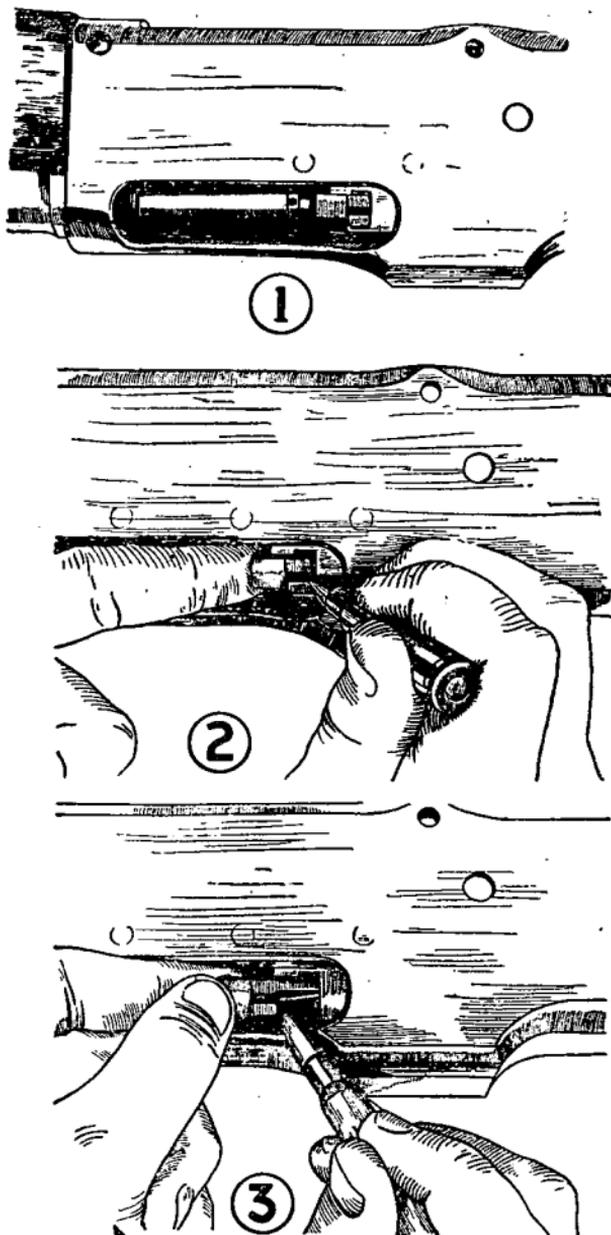

FIGURE 6.—Removing extractor without disassembling.
■ 11. TO REMOVE AND REPLACE EXTRACTOR WITHOUT DISASSEMBLING.—*a. Removal* (fig. 6).—Pull operating handle toward the rear and insert an *empty* cartridge case, base to
the front, between the bolt and chamber, exposing the extractor in the ejection opening (fig. 6 ①). Lay rifle on its side so that the ejection opening is up. With forefinger of
the left hand, pull out claw of the extractor, then place nose of a cartridge behind the extractor shoulder (fig. 6 ②) and pry it forward until extractor is free of the recess (fig. 6 ③). Remove extractor and extractor spring.